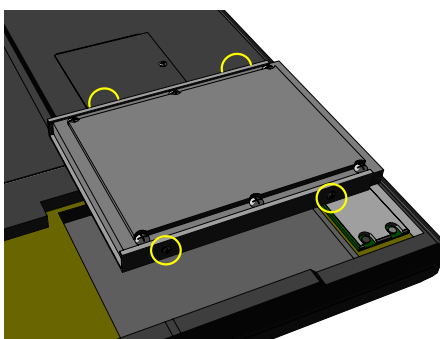

Fig.10
2. Place the hard drive in the bracket and secure with four screws. (See Fig.10)